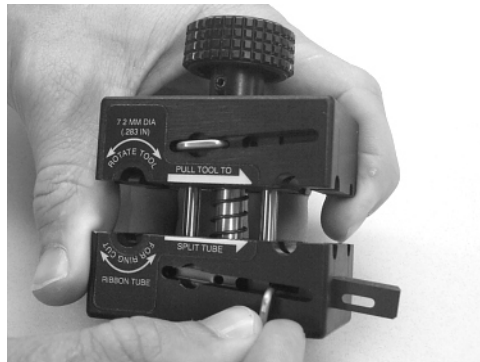

Figure 7 – Slide the cutting blade out of the tool.
**8.3** Insert the tip of the locking clip in the elongated slot and push the cutting blade out of the tool (Figure 7).